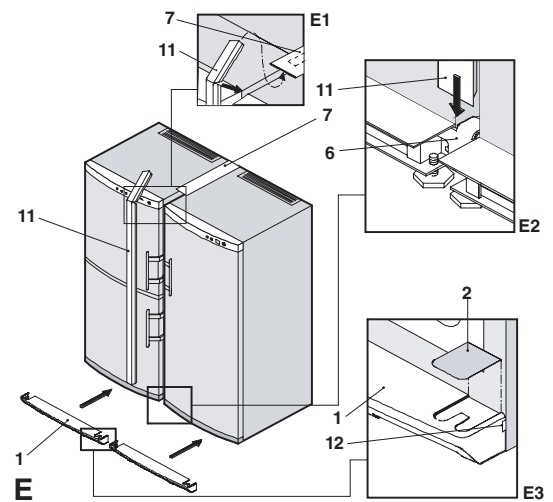

Figure 28
9. Connect the appliances at the top with the cover profile (**Fig. 28, 7**).
11. Press the sealing strip (**Fig. 28, 11**) into the gap in the front, and the remaining gap on the top. Make sure the notch on the underside of the sealing strip coincides with the upper edge of the appliances.
12. Push the end of the sealing strip under the recess in the cover profile (**Fig. 28 E1, 11**).
15. Break off the thin tab (**Fig. 28 E3, 12**) on the pedestal panels (**Fig. 28 E3, 1**).
17. Replace the cover plates (**Fig. 28, 2**) and click into place.